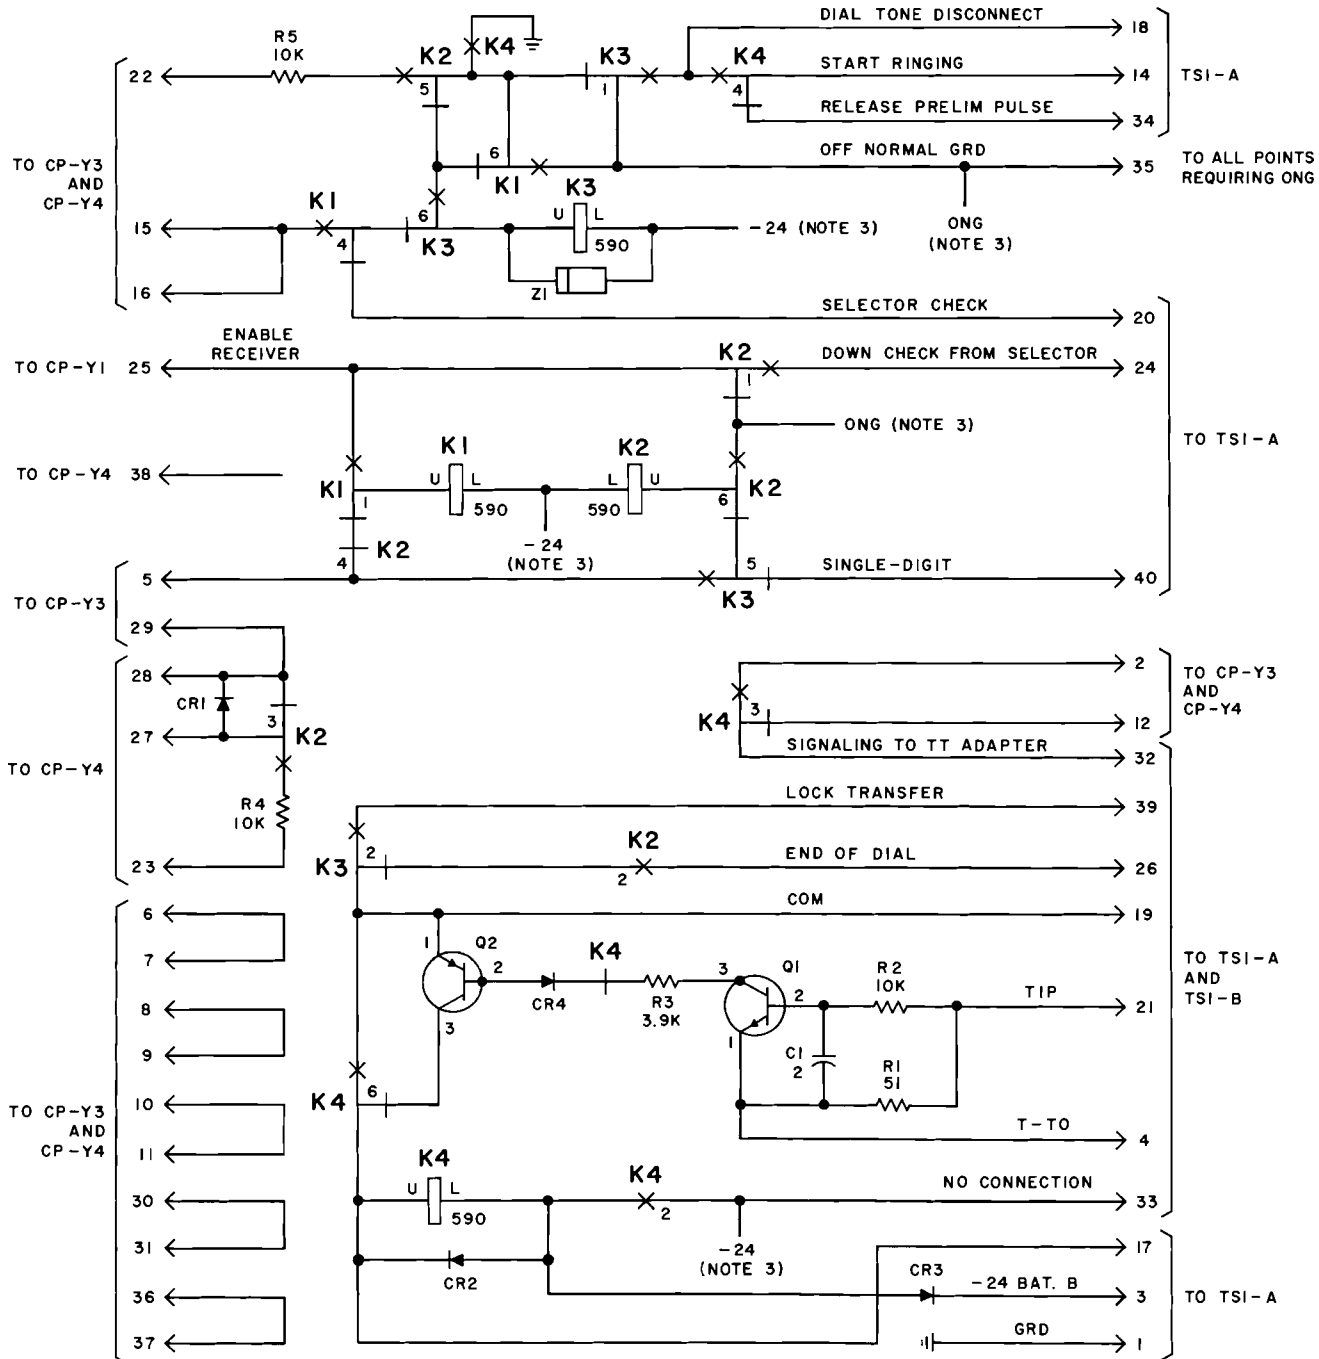

Fig. 6 — Adapter for 207C Selector, Schematic
2.04 Fig. 6 shows the schematic of the adapter for 207C selector circuit CP-Y5.